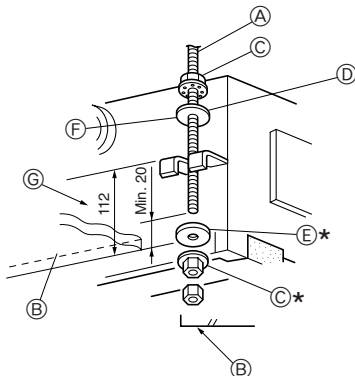

Fig. 2-7
1. Thread washers ① ② (supplied) and their nuts (procured locally) onto the suspension bolt in advance. (Fig. 2-7)